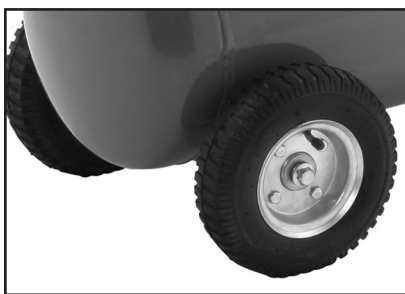

Figure 3. Wheels attached to the tank.
3. Slide the axle bolts through the struts and secure with 10mm lock washers and M10-1.5 hex nuts (see **Figure 3**).